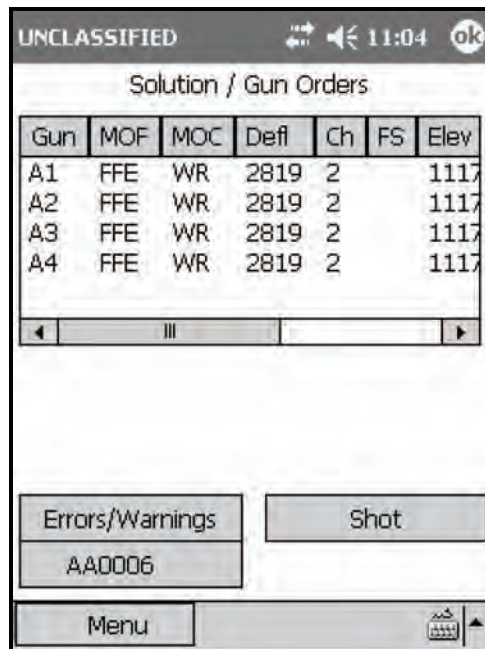

Figure 18-40. Registration: Fire For Effect Solution screen.
- (1) From the Subs Adjust screen, change MOF to FFE and input Add 25.
- (2) Select Use All.
- (3) The Solution/Gun Order screen displays (Figure 18-40).